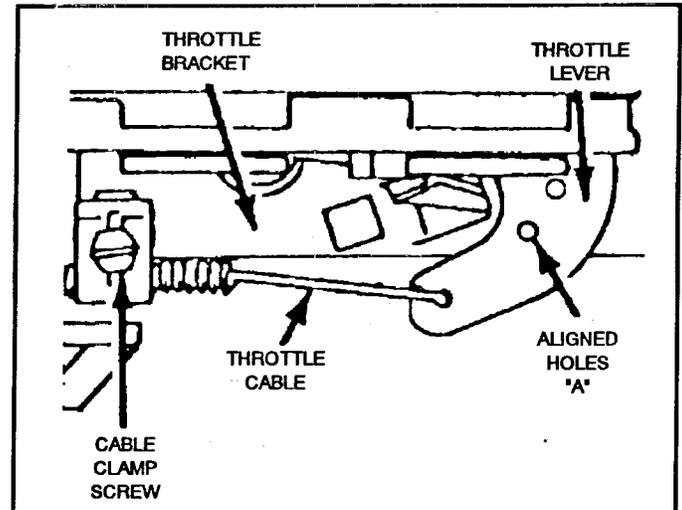

Figure 8
4. Move the throttle cable left or right until holes in the throttle lever and throttle bracket align. See Figure 8.